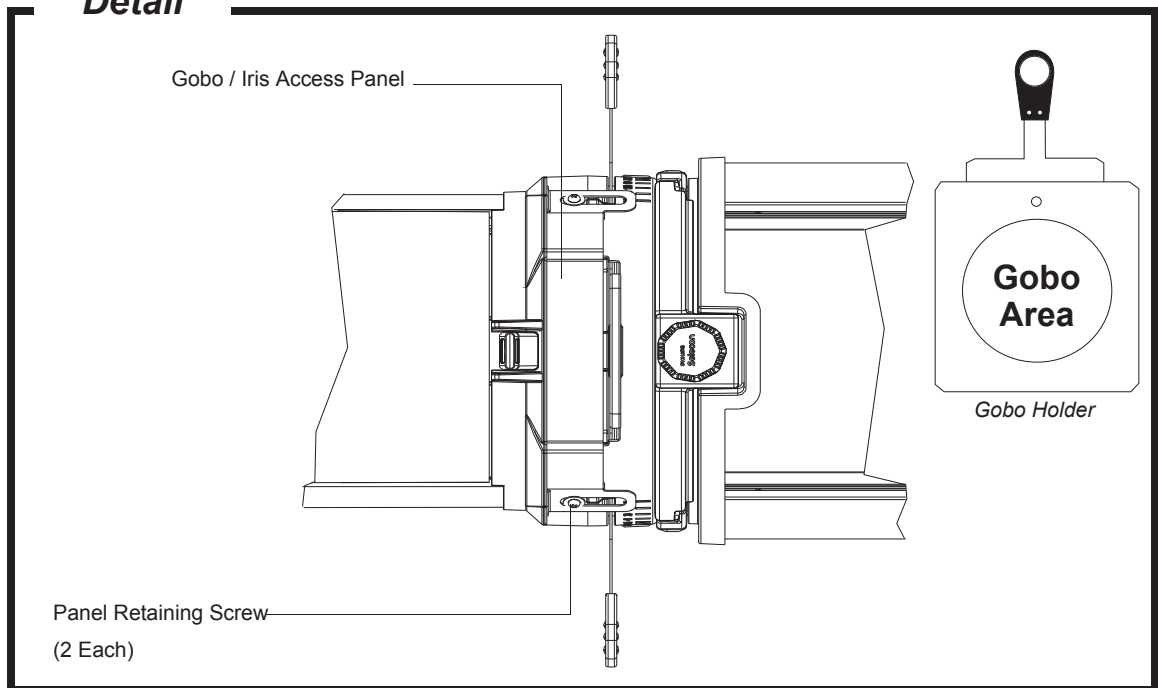

Figure 10: PLPROFILE4 MKII LED Luminaire Gobo Holder and Gobo Installation
- Step 1. As shown in **Figure 10 on page 11**, loosen, but do not remove, two retaining screws that secure gobo/iris access panel. Slide open gobo/iris access panel.